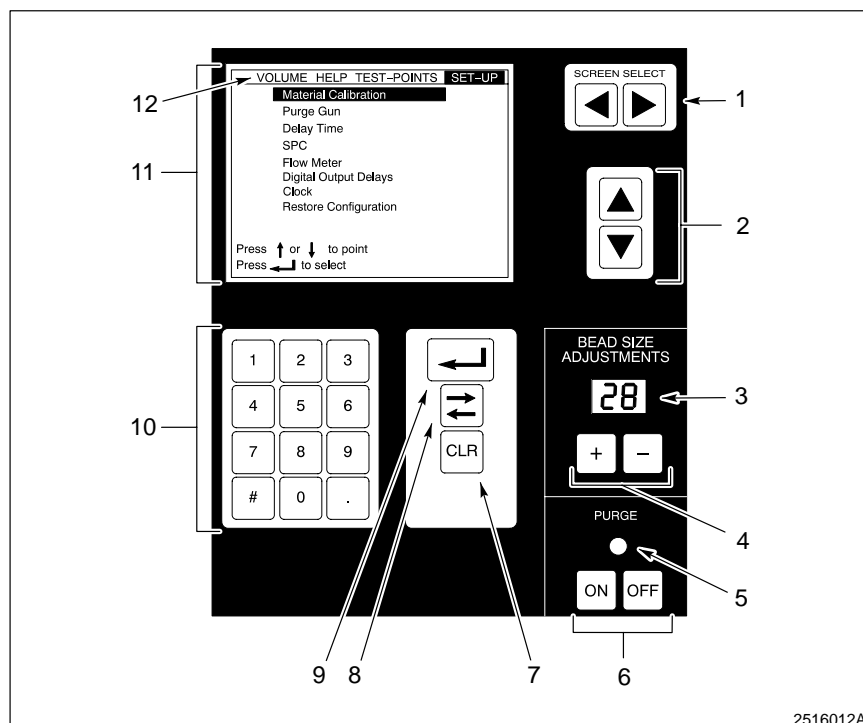

Fig. 4-2 Operator Keypad
See Figure 4-2.
See Figure 4-2. The screen selection menu (12) is displayed across the top line of the display (11). Use the screen select keys (1) to highlight one of four screen choices: VOLUME, HELP, TEST-POINTS, or SET-UP. Use the up or down arrow to highlight the prompts from the screen.
1. See Figure 4-2. Use the screen select keys (1) to highlight SET-UP on the top menu bar of the display (11).
2. Use the up and down arrow keys (2) to highlight the Flow Meter prompt. Enter the K-value stamped on the side of the flowmeter body.
2. See Figure 4-2. If the bead is too small, adjust it to a higher number with the bead adjustment keys (4). If the bead is too big, adjust it to a lower number.